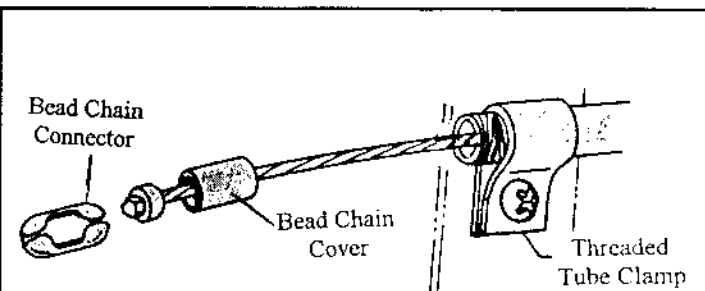

FIGURE 28
3. The **Threaded Tube Clamp** may be used to anchor the **Cable Assembly** to the existing throttle cable bracket. (Figure 28) In some cases there is an existing hole, in other cases you can drill a **3/16"** hole in the bracket.